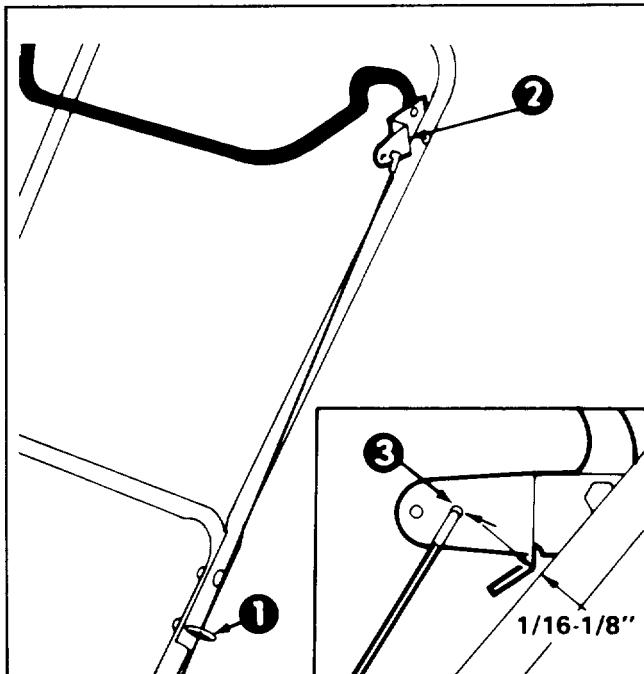

Figure 5
INSTALL CONTROL CABLE (Fig. 5)
2. Move control bar back toward handle until slack in cable is removed. The gap between the control bar bracket and handle should be approximately $1/16$ "– $1/8$ ". See insert, Figure 5. If an adjustment is required, refer to Adjusting Control Bar, page 8.